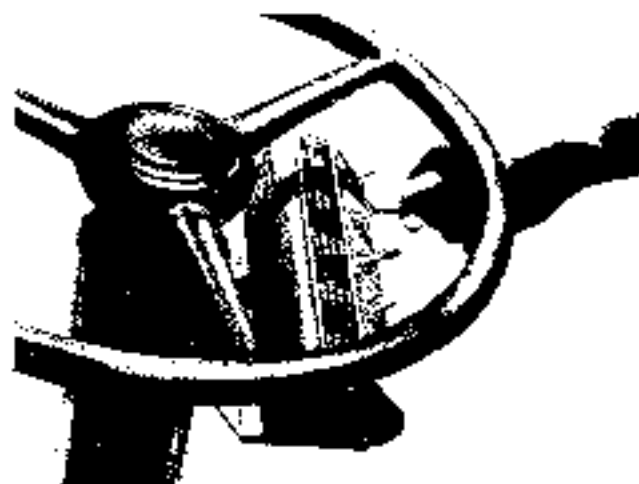

FIGURE C-2 - Controls
With engine running at operating speed and master clutch engaged, transmission in neutral, push screed hoist switch forward. (Refer to Figure C-2.)
2. Lower screed by putting toggle switch in center position until the leveling arms rest on the supports. Figure C-2.
TO RAISE HOPPER WINGS (Refer to Figures C-2 and C-4.)
1. Move Hopper Wing Control Switch, Figure C-2 up. When operating, material will automatically flow from wings to feeders.
(Refer to Figure C-2.)